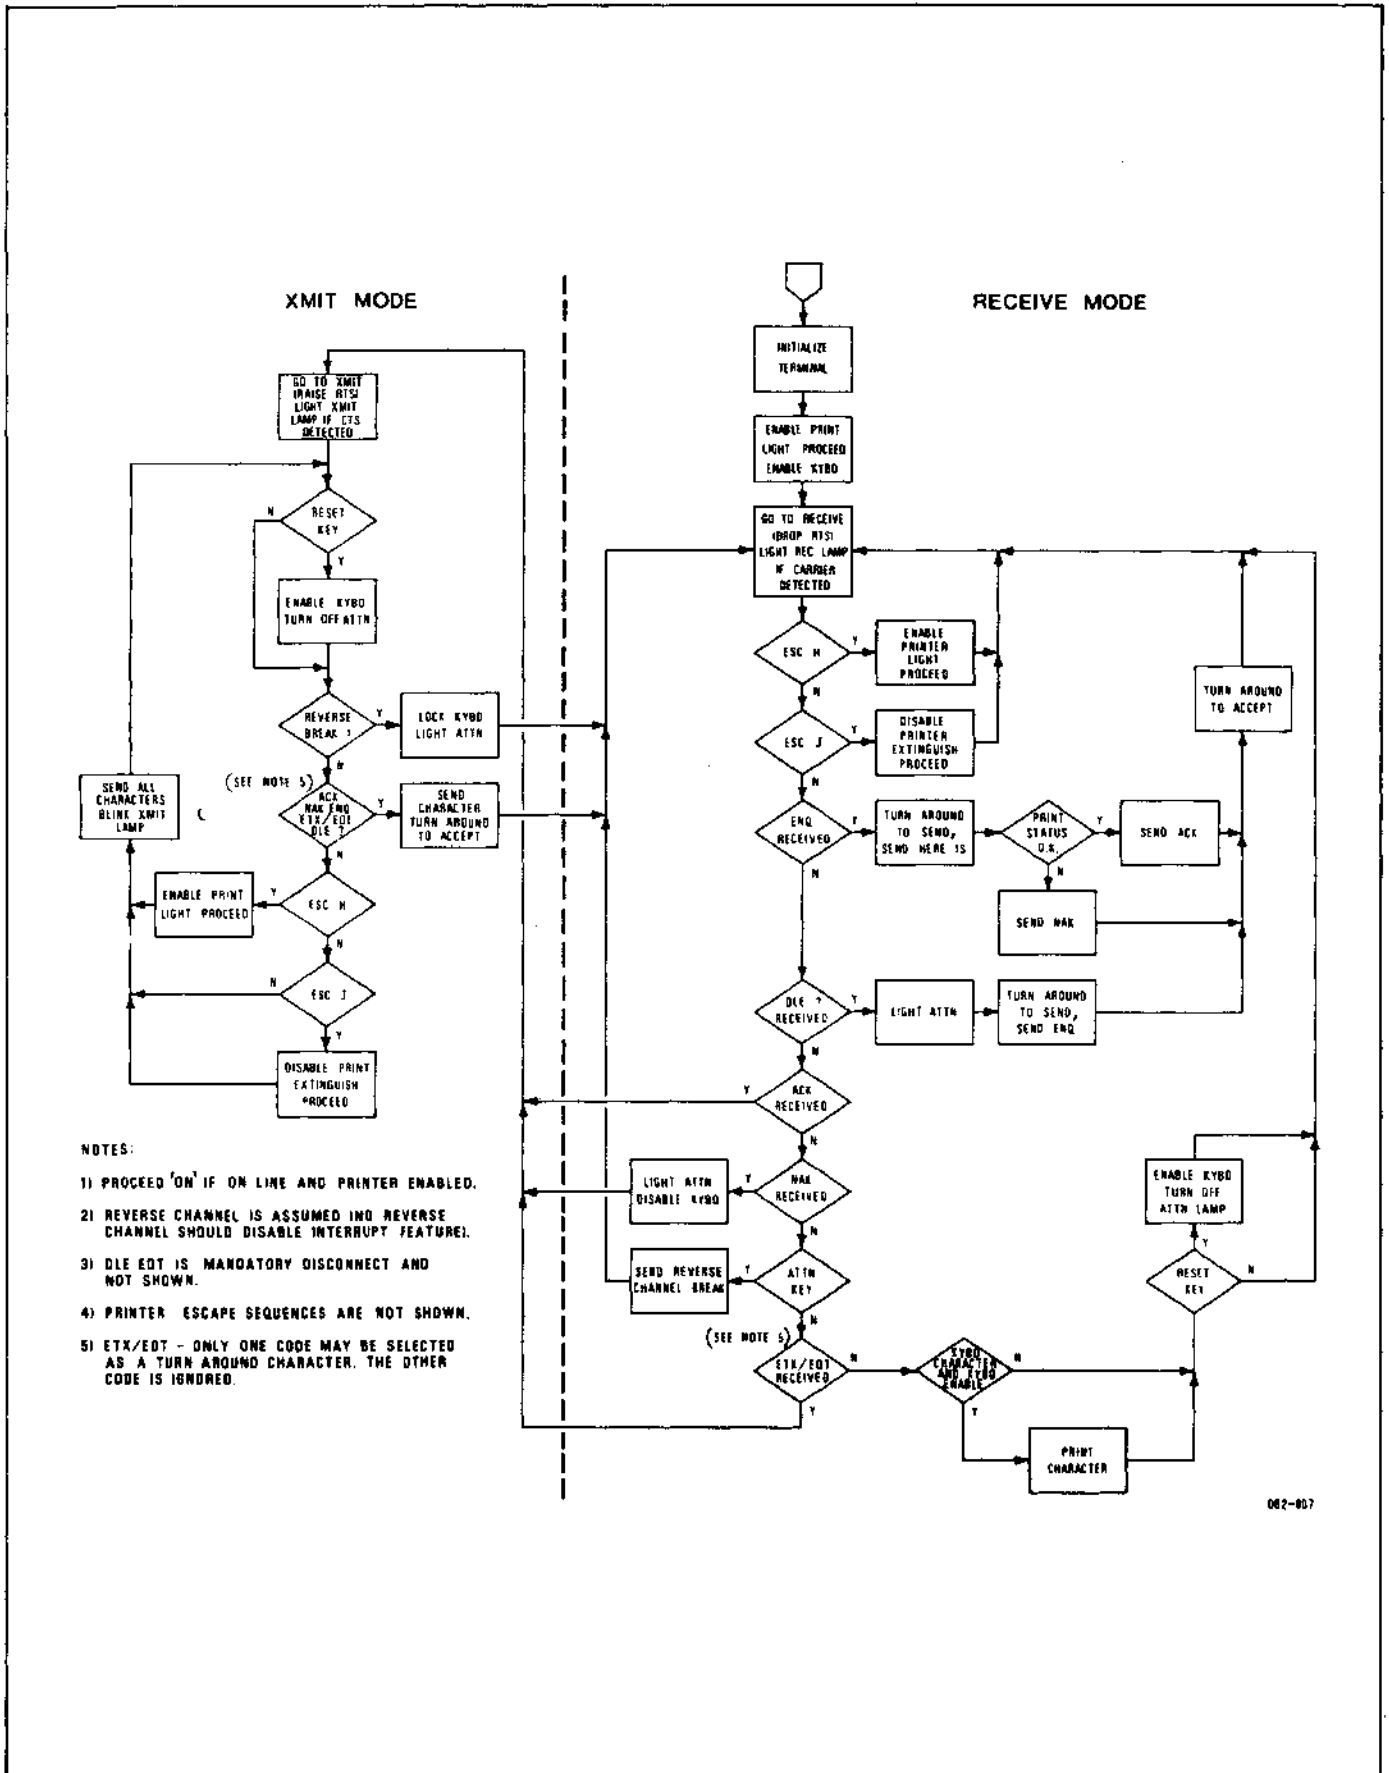

Figure 3-1. Line Control Protocol Flow Chart
3.4.3.1 LINE TURN CHARACTERS (Refer to Figure 3-1)
3.4.3.3 FORWARD AND REVERSE CHANNEL BREAKS (Refer to Figure 3-1)
3.4.3.4 PRINTER STATUS REPORTING (Refer to Figure 3-1)